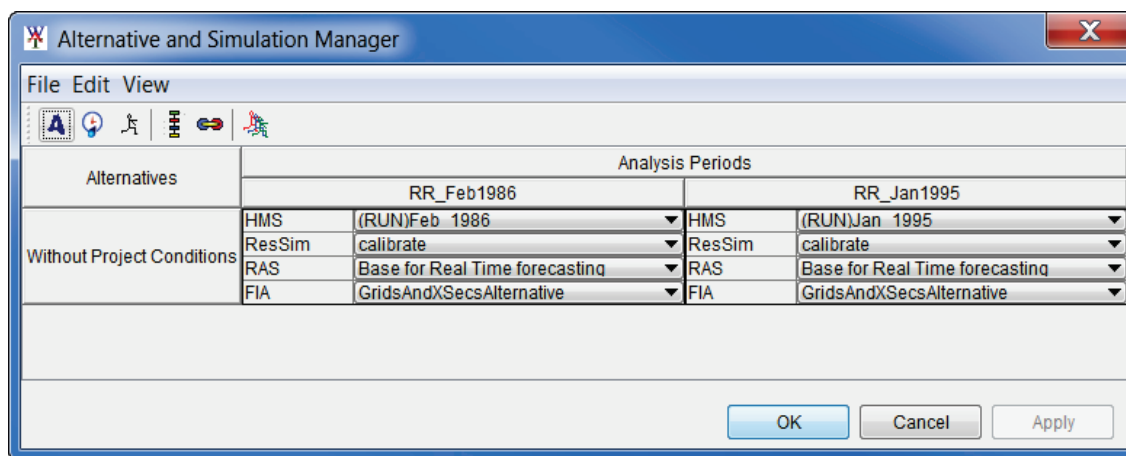

Figure 9.27 Alternative and Simulation Manager
1. From the HEC-WAT main window (Figure 9.1), from the **WAT Tools** toolbar, click . The **Alternative and Simulation Manager** will open (Figure 9.27).
2. From the **Alternative and Simulation Manager** toolbar, click ; or from the **File** menu, point to **Analysis Periods**, click **New**; or, from the table (Figure 9.27), right-click on the **Analysis Periods** header, from the shortcut menu (Figure 9.2), click **New**. The **Create New Analysis Period** dialog box will open (Figure 9.3).
1. From the **Alternative and Simulation Manager** (Figure 9.27), from the **File** menu, point to **Analysis Periods**, click **Delete from Study**.
When an analysis period has been created, from the **Alternative Simulation Manager** (Figure 9.27), from the table, right-click on the header that contains the name of the individual analysis period(s). By right-clicking on an analysis period, a shortcut menu (Figure 9.5) becomes available. From the shortcut menu the user can perform various functions on individual analysis periods.
1. From the **Alternative and Simulation Manager** (Figure 9.27), from the table, right-click on the header that contains the name of the individual analysis period. From the shortcut menu (Figure 9.5), click **Edit**. Alternatively, from the **Alternative and Simulation Manager** (Figure 9.27), from the **Edit** menu, click **Analysis Periods**. Either way, the **Analysis Period Editor** will open (Figure 9.6).
When an analysis period has been changed and the **Analysis Period Editor** has been closed, the user can save the analysis period information. From the **Alternative and Simulation Manager** (Figure 9.27), from the table, right-click on the header that contains the name of the individual analysis period. From the shortcut menu (Figure 9.5) click **Save**.
1. From the **Alternative and Simulation Manager** (Figure 9.27), from the table, right-click on the header that contains the name of the individual analysis period. From the shortcut menu (Figure 9.5) click **Save As**.
1. From the **Alternative and Simulation Manager** (Figure 9.27), from the table, right-click on the header that contains the name of the individual analysis period. From the shortcut menu (Figure 9.5) click **Delete from Study**.
The properties of an analysis period include the name, description, when the analysis period was modified, who created the analysis period, when it was created, and the file that contains the analysis period data. From the **Alternative and Simulation Manager** (Figure 9.27), from the table, right-click on the header that contains the name of the individual analysis period, from the shortcut menu (Figure 9.5), click **Properties**. The **Properties for AnalysisPeriodName** dialog box will open (Figure 9.8).